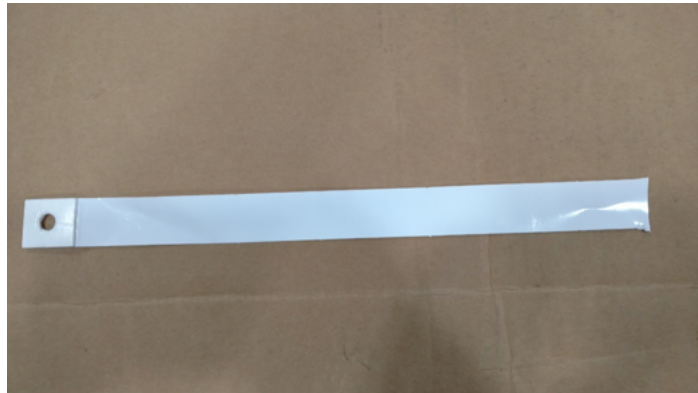

Figure 11
- A. Remove small square film exposing adhesive on template (fig. 11).